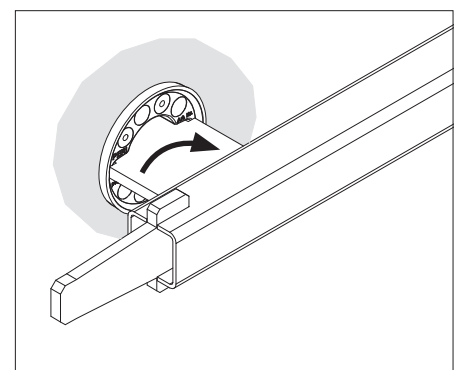

Fig. D1.04d
5. Turn the Magnet Cone Spanner. (Fig. D1.04d)